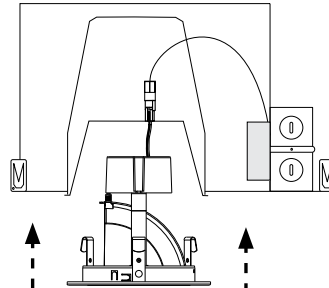

Figure 5
3. Squeeze in mounting blades on both sides of the trim and carefully push fixture into the housing. (See Fig. 5)
5. Squeeze in mounting blade on both side and carefully push fixture into the housing (See Fig. 5)